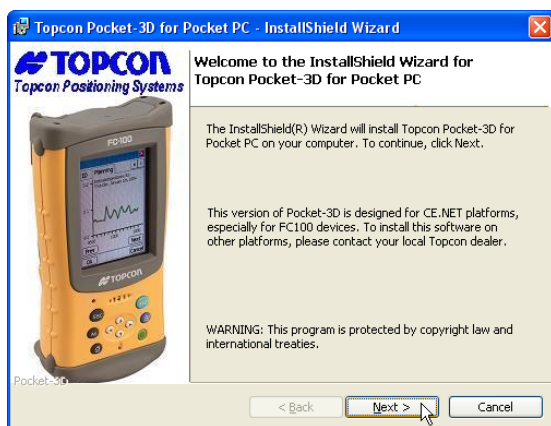

Figure 1-2. Begin Pocket-3D Installation
3. Click the Pocket-3D setup icon to run the install program and click **Next** on the *Welcome* screen (Figure 1-2).